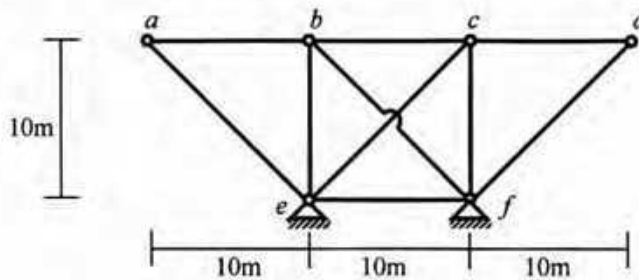

Fig. 6
6. Use the Flexibility Method to calculate the forces in all the members of the truss  $abcdef$  shown in Fig. 6, if support  $e$  moves 0.03-m rightward [Given:  $EA/L = \text{constant} = 7500 \text{ kN/m}$ ].